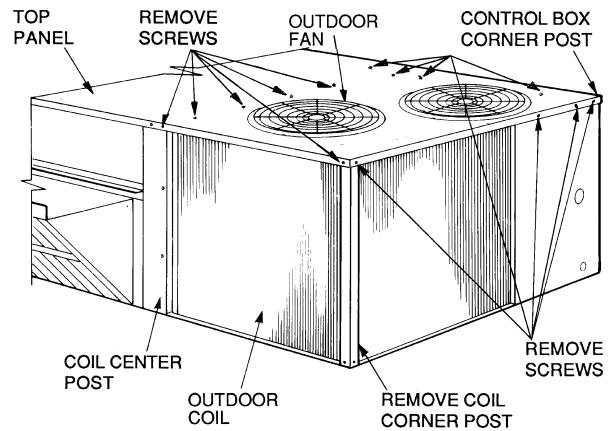
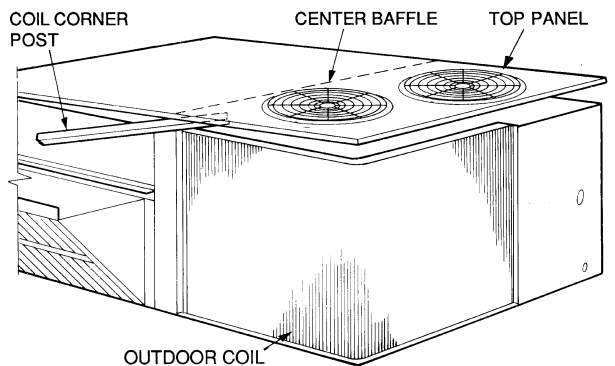

Fig. 39 — Cleaning Outdoor Coil
Fig. 40 — Propping Up Top Panel
3. Remove outdoor coil corner post. See Fig. 39. To hold top panel open, place coil corner post between top panel and center post. See Fig. 40.